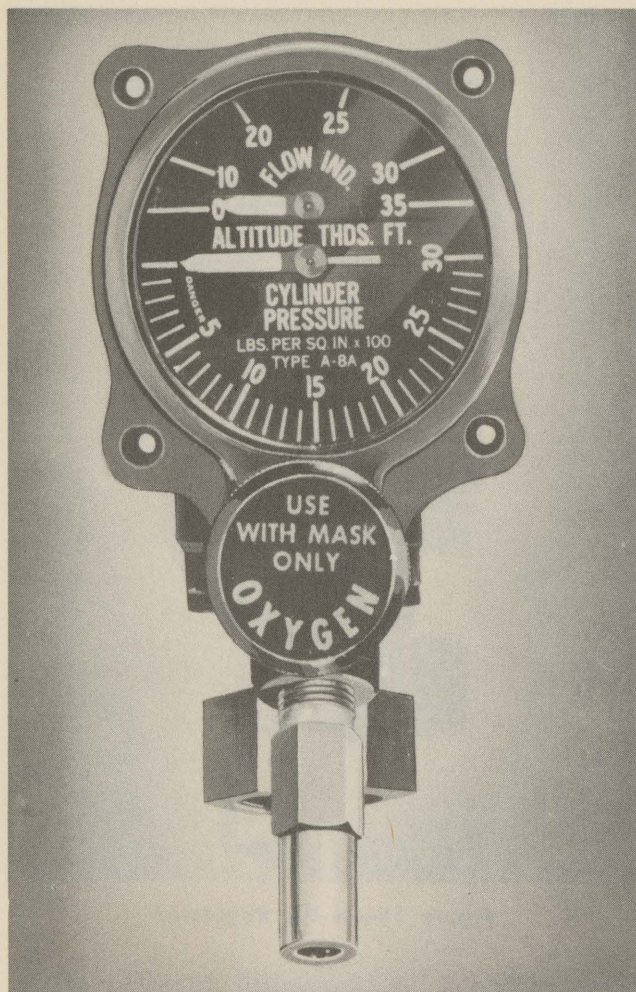

Figure 20—A-8A Regulator
b. HIGH PRESSURE CONTINUOUS FLOW.—Maintenance, operation and inspection of the high pressure system is the same as the plan given for the low pressure, except that the cylinders are filled to 1800 p.s.i. and must be taken from the airplane to be recharged. Copper tubing 3/16 x .032 inch and silver solder type fittings are used. A high pressure regulator must also be used. In flight, indicator settings on type A-8 and A-8A regulators (figure 20) will be adjusted to correspond to the altitude of flight. (The regulator must be turned higher if activity is increased.) Indicator setting of the type A-6 regulator will be maintained at "20" for all altitudes.